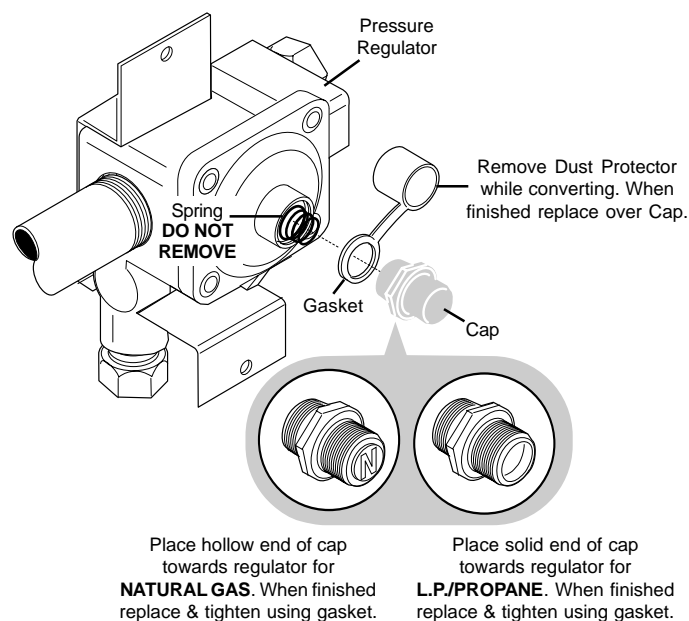

Fig. 2a
- Follow the remaining **conversion instructions depending on your pressure regulator style provided in Figs. 2a OR 2b.** Once set for L.P./Propane replace gasket and cap then tighten.